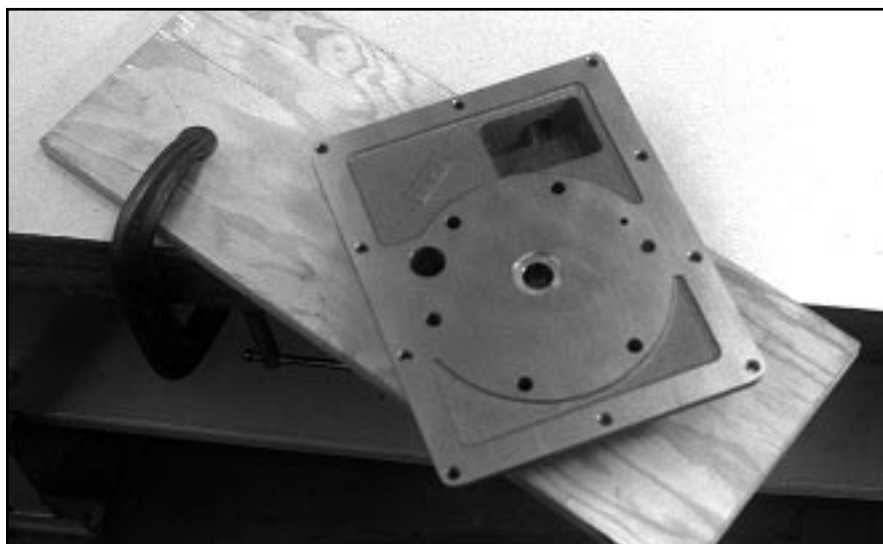

Figure 2 - Large End Plate on the Assembly Fixture
1. Place the large end plate (66) on the assembly fixture with the machined surface up and the exhaust port cavity to the far right, as shown in **Figure 2**. Place thrust washer (65) in the shaft hole counter-bore and oil with DUOSEAL® vacuum pump oil.